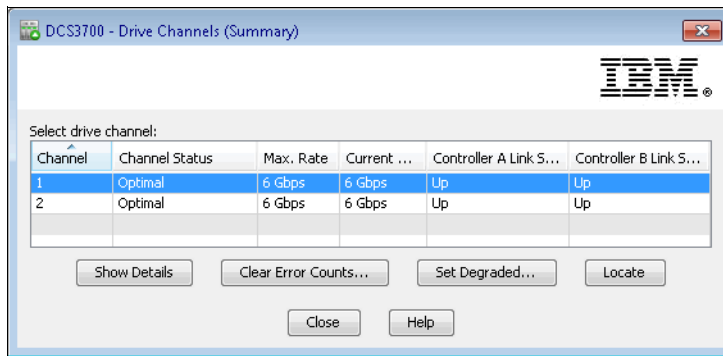

Figure 9-6 Drive Channels
- ▶ **Drive Channels:** This option provides information about physical links between controller enclosures and drive expansion units that transfer host I/O data (see Figure 9-6). By using this option, you can complete the following tasks: